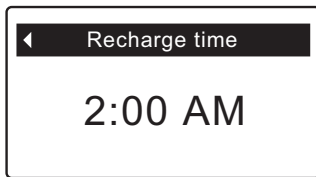

FIG. 65
4. Press the SELECT (○) button to display the Recharge time screen (See Figure 65).